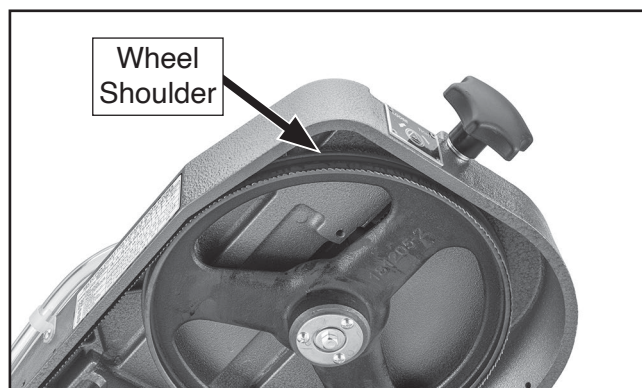

Figure 78. Location of wheel shoulder.
- Tightening set screw will move blade *closer* to shoulder of wheel (see **Figure 78**).
- Loosening set screw will move blade *away* from shoulder (see **Figure 78**).